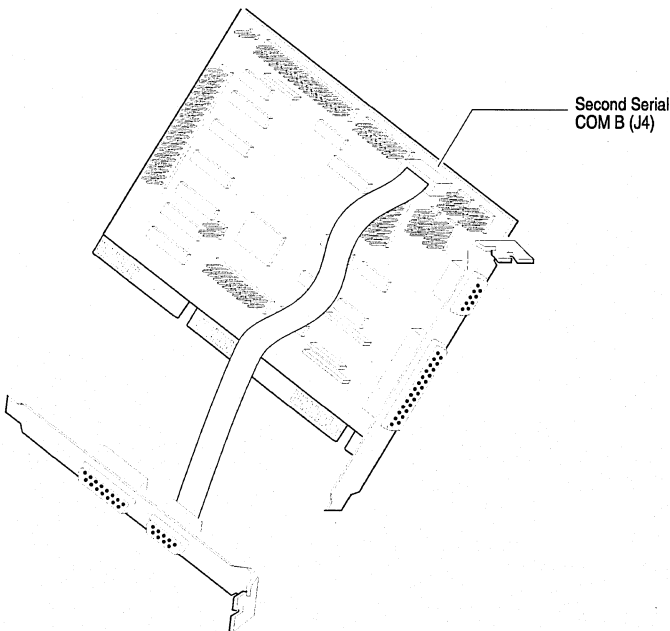

fig. 5-3
2. Insert the 9-pin connector on the secondary serial port cable (COM B) to secondary serial port connector (J4) on the multi-function I/O card (fig. 5-3). Make sure the colored edge of the cable is aligned to pin 1 of the J4 connector. The following figure illustrates the I/O card and the secondary serial port cable.